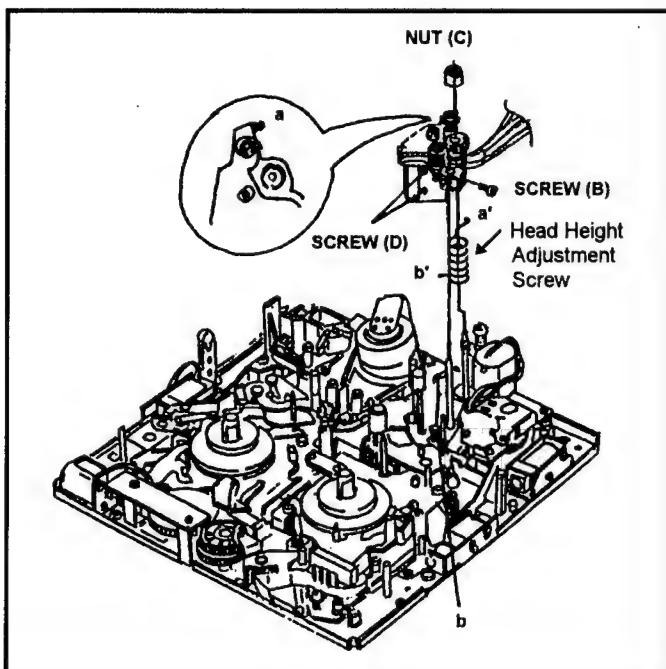

Fig. 4-2-1
2. Loosen the hex screw (B) and remove the Nut (C). Hang off the Head Height Adjustment Spring and then remove the A/C Head Unit as shown in Figure 4-2-1.
**Point:** Memorized height of Nut (C) before remove the Nut (C).
3. Remove the 2 screws (A) and disconnect the connector P1 on the A/C Head I/F and P30 on the Mech I/F P.C. Board, then remove the A/C Head from the A/C Head Plate.
4. Remove the Shield Cover by removing 2 screws (D) as shown in Figure 4-2-1.